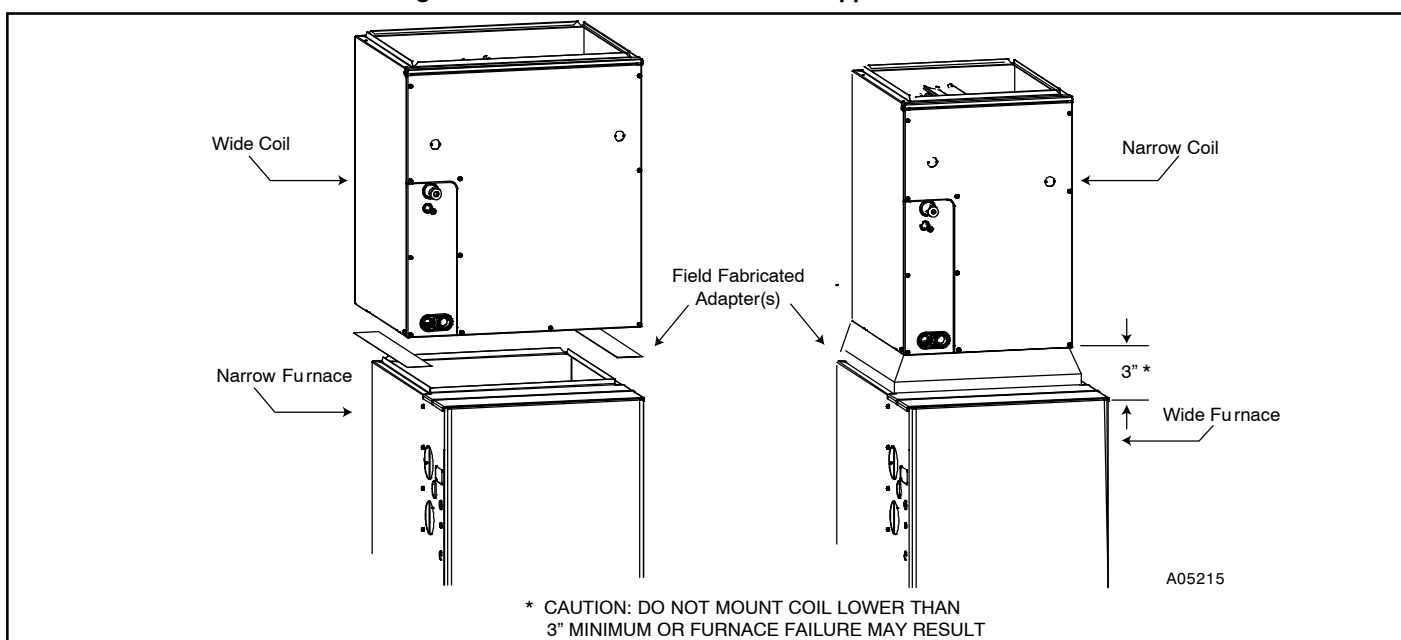

Figure 2 – Adapter(s) Installation When Coil Overhangs or Underhangs Furnace
3. When installing wider coil on narrow furnace, create field fabricated adapter. (See **Figure 2**)
4. When installing narrow coil on wide furnace, create field fabricated adapter. (See **Figure 2**)